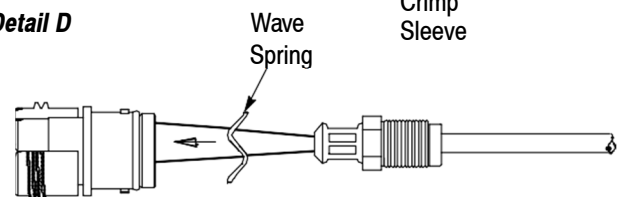

Figure 13
7. Using an applicator swab, apply a *thin film* of the grease around the inside of the O-ring inside the housing and around the inside of the front seal on the inside of the housing. Refer to Figure 13, Detail A. Remove any excess grease.
8. Align the internal key (small bar inside) of the housing with the keyway (slot along the side) of the EB insert, and slide the EB insert into the housing. See Figure 13, Detail B.
9. Using the 3-mm hex wrench, push the EB insert into the housing until it bottoms (when bottomed, the front edge of the EB insert should be approximately flush with the front seal). To avoid damage to the fiber, DO NOT push the fiber or cable to install the EB insert. See Figure 13, Detail C.
10. Slide the wave spring over the crimp sleeve and into the housing and against the EB insert. See Figure 13, Detail D.